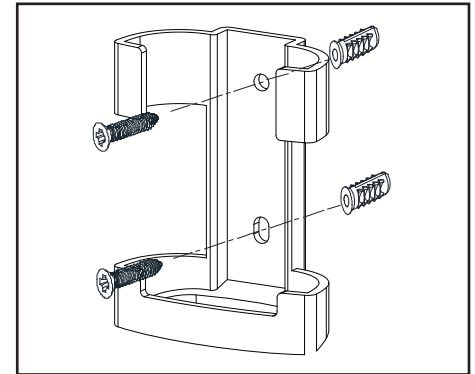

Figure 18
1. Position the wall cradle in the desired position and attach it to the wall using the included wall cradle screws. (Figure 18)